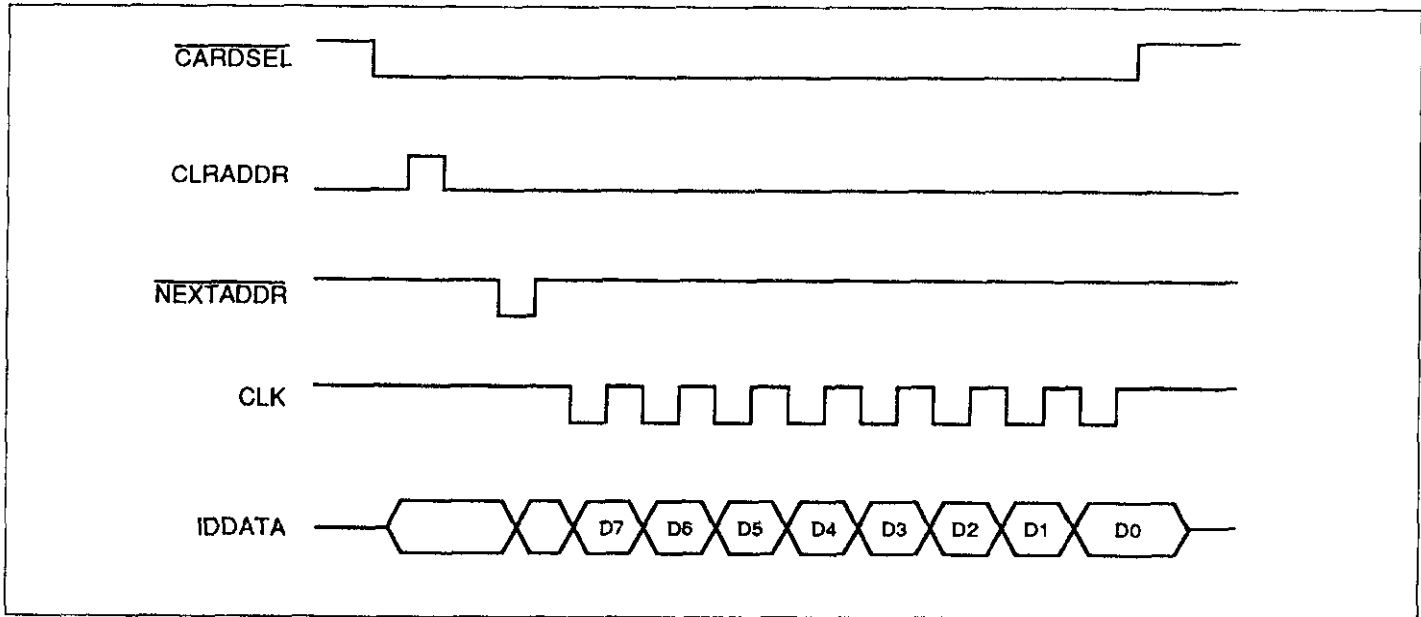

Figure 4-9. IDDATA Timing Diagram
On power up, control line CARSEL goes low turning on the EPROM (U27). That control line, as well as the other control lines from the Model 707, are buffered by U44. Lines CLK, NEXT ADDR and CLR ADDR along with counter U45 control the task of loading data from the EPROM into the parallel to serial shift register (U43). Data sent from U47 to the Model 707 via the IDDATA line is strobed by the CLK control line. The timing diagram in Figure 4-9, shows the first byte of identification data during the transfer sequence. For subsequent bytes, the CLRADDR line stays low.
**See Figure 4-9